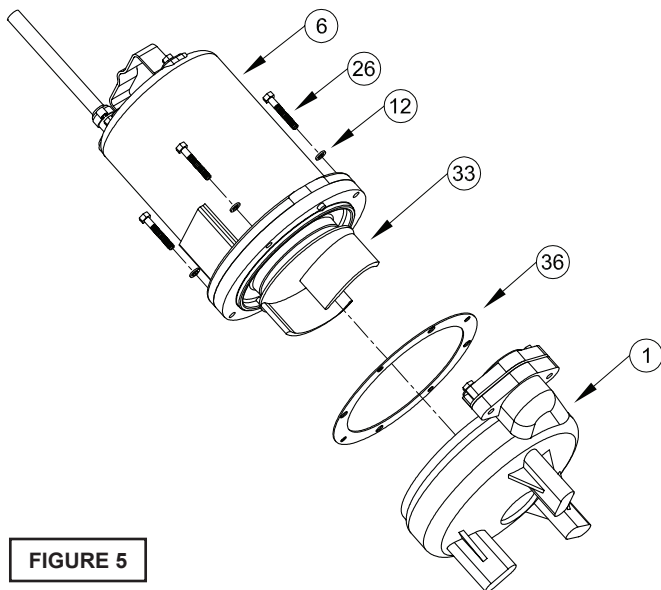

FIGURE 5
To clean out volute (1) or replace impeller (33), disconnect power, remove hex bolts (26), and lockwashers (12), vertically lift motor and seal plate assembly from volute (1) see Figure 5. Clean out body if necessary. Clean and examine impeller (33), for pitting or wear and replace if required, inspect gasket (36) and replace if cut or damaged. If the impeller (33) needs replacing, place a flat screwdriver in the slot of the end of the shaft to hold the shaft stationary while unscrewing the jam nut (66) and impeller (33).